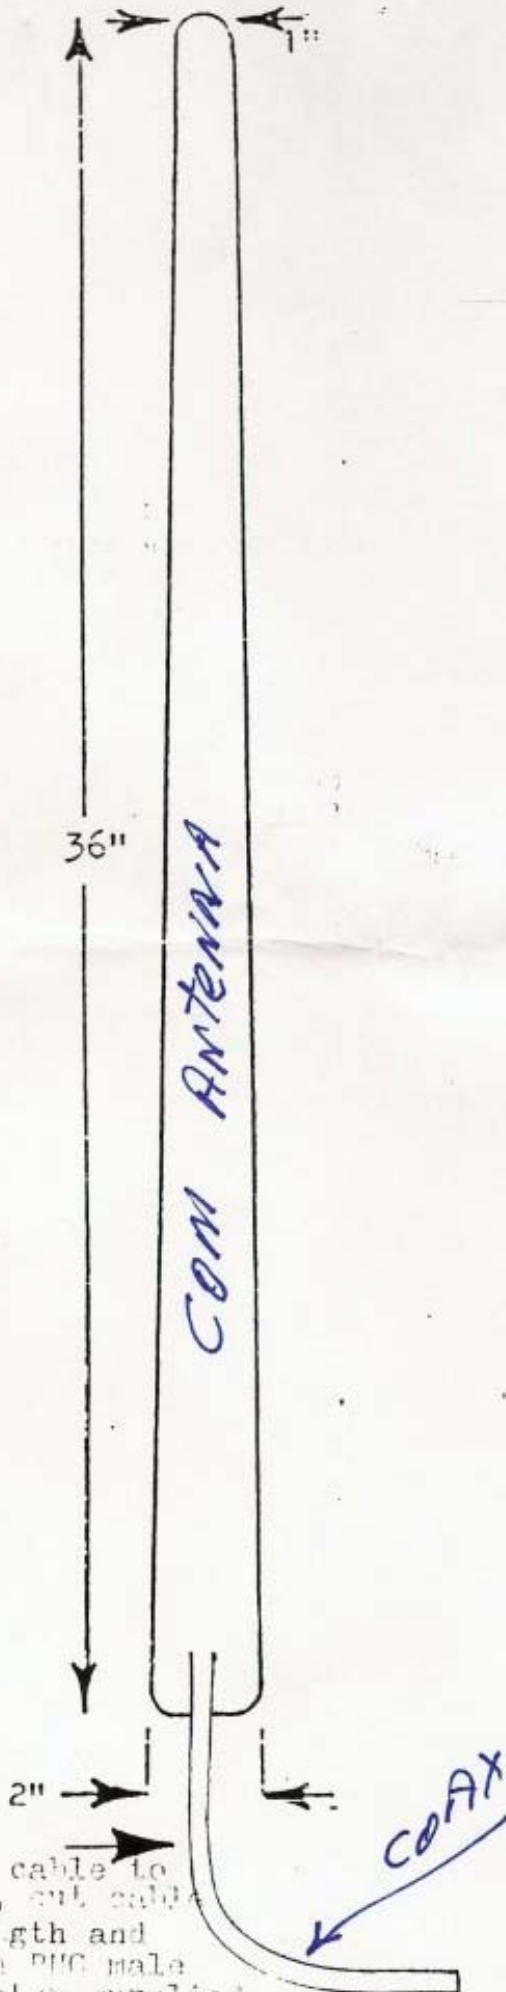

Figure 1
1. With the first side of the vertical fin installed and before the ribs and stabilizer are installed, fit the antenna into the fwd section of the vertical fins side. See fig. 1.
(See figs 1 and 2)
1. With the first side of the vertical fin installed and before the ribs and stab spar are installed, fit the antenna into the fwd section of the vertical fin side. See fig. 1.